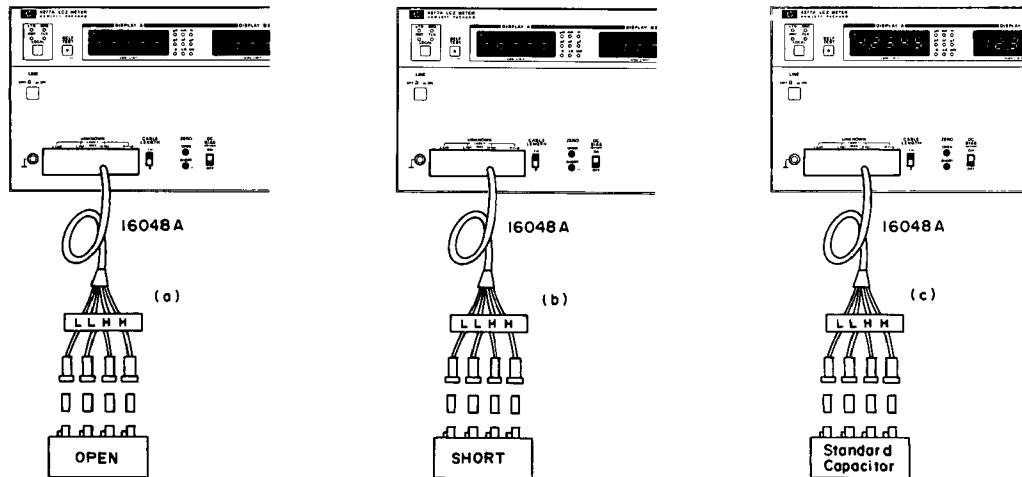

Figure 4-5. Capacitance Accuracy Test Setups (CABLE LENGTH: 1m).
- 6. Disconnect the standard capacitor and connect the 16048A Test Leads to the UNKNOWN terminals. Connect Open termination as shown in Figure 4-5 (a). Use the BNC (f)-(f) adapters to permit connection of the termination. Press ZERO OPEN button to perform "open" offset adjustment.
- 7. Disconnect Open termination and connect Short termination as shown in Figure 4-5 (b). Press the ZERO SHORT button to perform "short" offset adjustment.
- 8. Disconnect Short termination and connect a 1pF standard capacitor as shown in Figure 4-5 (c).